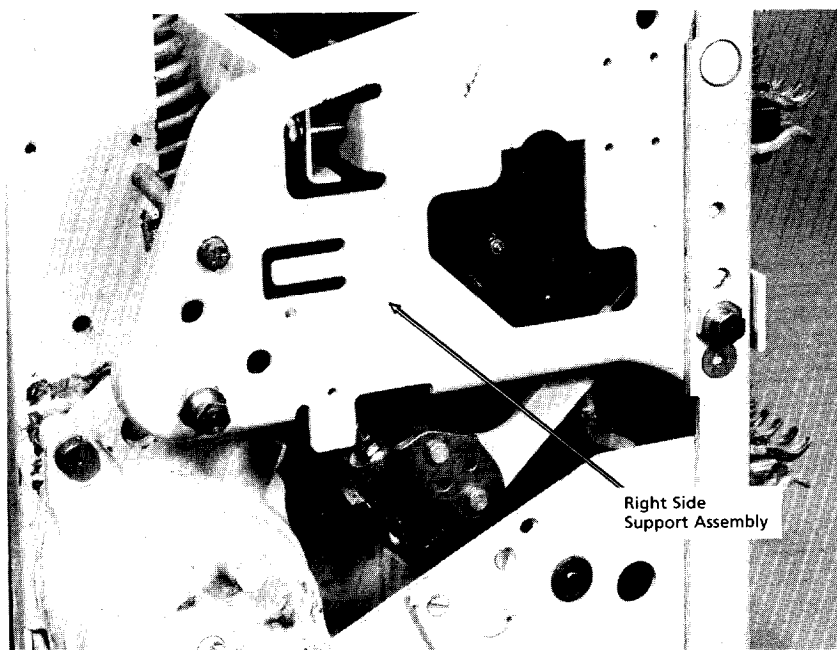

Fig. 3 — Right side support for AKD 5 equipment
- 11. **For AK/AKT/AKU 50 Breakers in AKD-5 Equipment Only** Remove the right side support assembly. Refer to Fig 3. This assembly will be replaced by the assembly provided in this replacement kit.
11. **For AK/AKT/AKU 50 Breakers in AKD-5 Equipment Only** Remove the right side support assembly. Refer to Fig. 3. This assembly will be replaced by the assembly provided in this replacement kit.